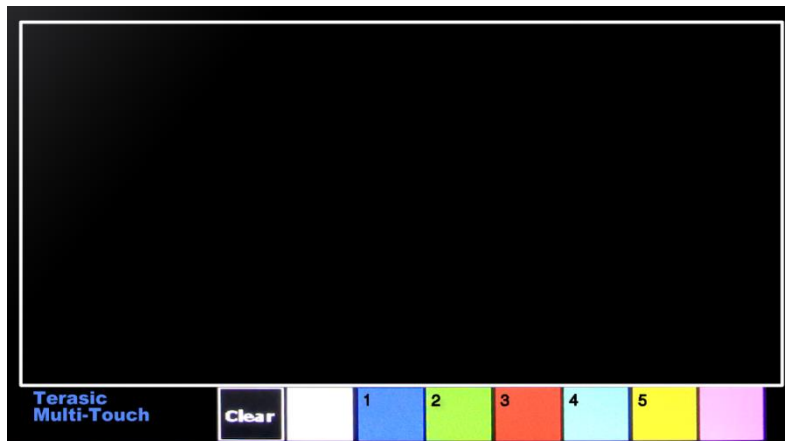

Figure 4-2 GUI of Painter Demo
- After Nios II program is downloaded and executed successfully, you will see a painter GUI in the LCD. **Figure 4-2** shows the GUI of the Painter Demo.